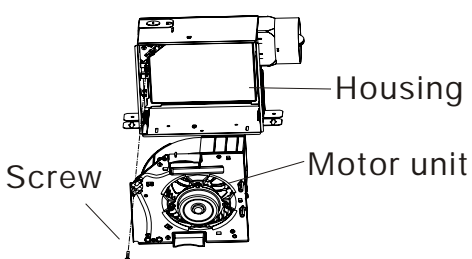

Fig.14
2. Mounting the motor unit into the housing, and fastness with one M4x16 screw. (Fig.14)